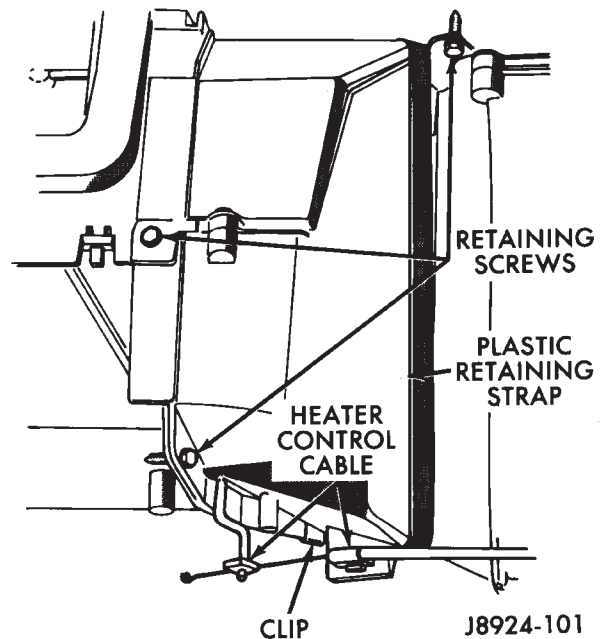

Fig. 20 Evaporator Housing
- (7) Cut the plastic retaining strap that retains the evaporator/blower housing to the heater core housing (Fig. 20).
- (8) Disconnect and remove the heater control cable.
- (9) Remove the clip at the rear of the blower housing flange and remove the retaining screws.